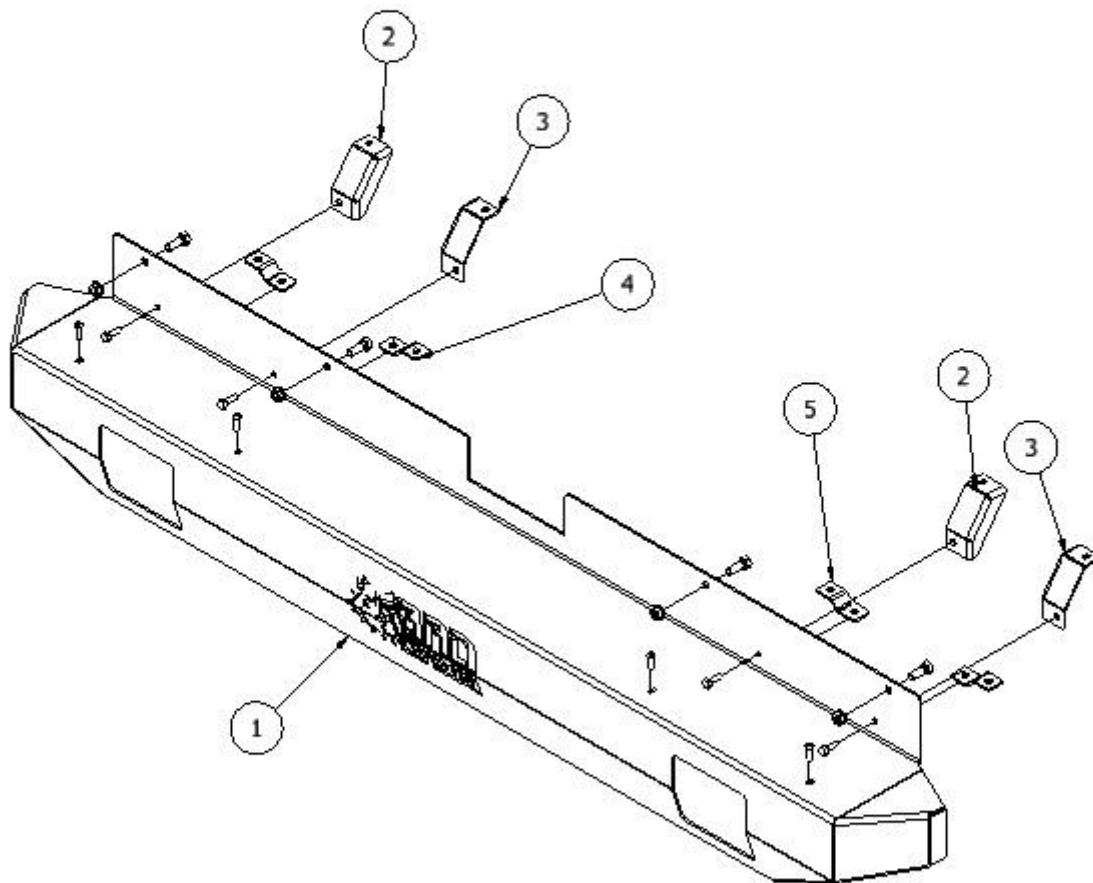

FIGURE 1.
Using the provided bolts (B2), install the Gusset Mounts (items 2, 3) in the same location that you removed the tail lights from (figure 5). It is important to face the gussets the same direction indicated in the illustration (figures 1, 5) because on the inside mounts there is limited room.
Install the Bumper Face (item 1) to the flange located just under the tailgate (figure 6) using the provided bolts (B3). Insure also that you put the insert the bolts the same direction indicated in the illustration (figure 1) to provide easier access to the bolt heads. These are serrated nuts so only access to the bolt head should be needed.